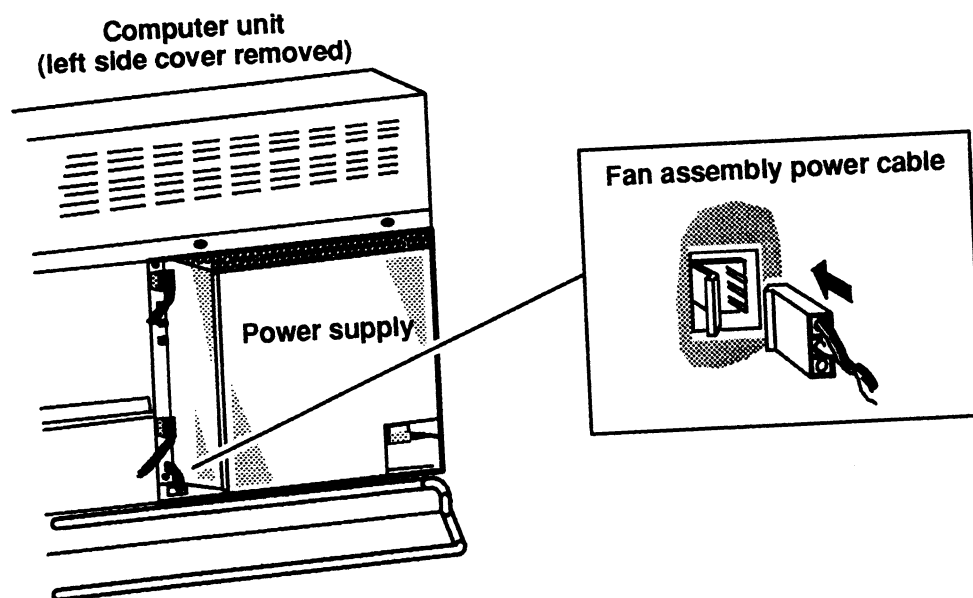

Figure 6-17 Plugging the Fan Assembly Power Cable into the Power Supply
4. Plug the fan assembly power cable into the power supply as shown in Figure 6-17.